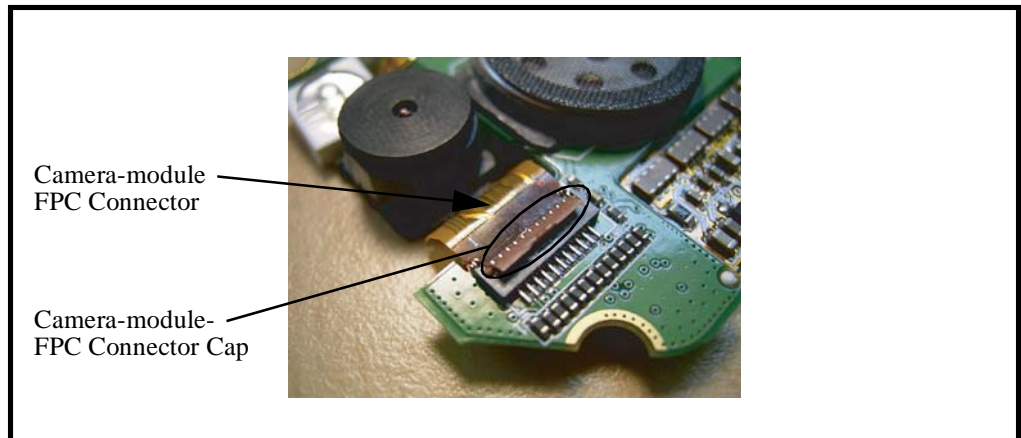

Figure 15. Removing the Camera-module FPC Connector
2. Lift the camera-module-FPC connector cap up and disconnect the camera-module FPC connector away from the upper PCB as shown in Figure 15.